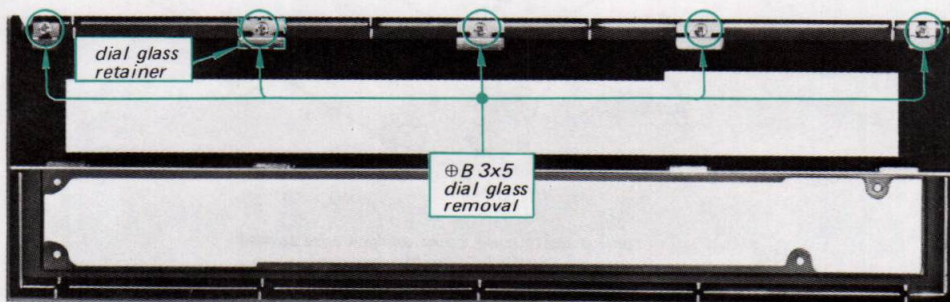

Fig. 2-5. Dial glass removal
6. Remove the five screws securing the dial glass retainer from the back as shown in Fig. 2-5. This frees dial glass.